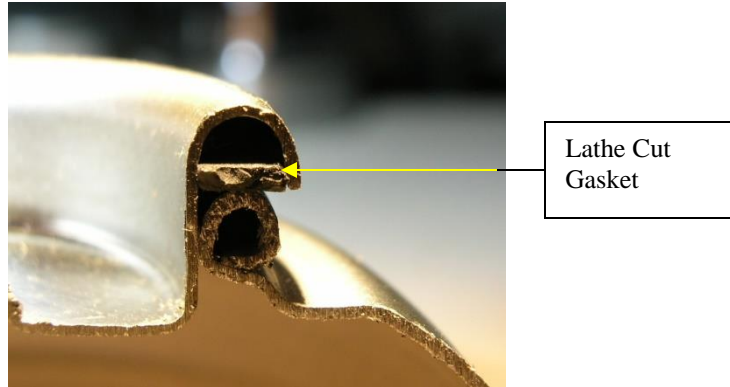
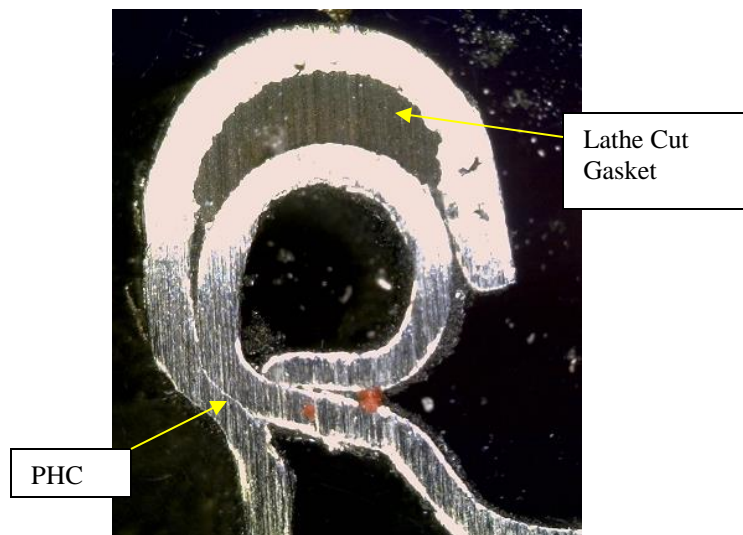

Figure 18 – Lathe Cut Gasket prior to Crimping
Figure 19 – Lathe Cut Gasket after Crimping
You will notice that prior to crimping, the lathe cut gasket sits loosely in the mounting cup curl (see Figure 18). After crimping, the lathe cut gasket is compressed between the mounting cup curl and the top of the can curl (see Figure 19). There is no gasking material at the PHC.
1. **Crimp Pull / Crushed Dome:** This measurement helps analyze the amount of pressure the can and valve are experiencing during crimping and is useful with laminate mounting cups and tinsplate cans. This method doesn't work with lathe cut gasketed cups because the initial measurement would be hard to obtain due to the valves orientation on the can prior to crimping (reference Figure 18) and the gasket's compression after crimping. It is also not suited for use with round top aluminum cans due to the shape of the dome. I have not tried this method with a sleeve gasketed mounting cup but believe it would work the same as with the laminate cup.